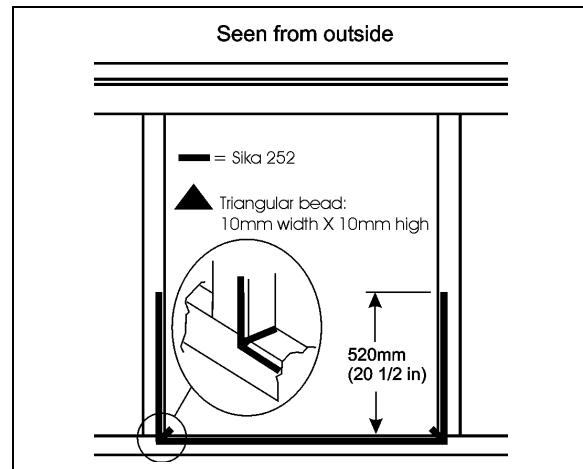

FIGURE 71: AWNING WINDOW – SIKA 252 APPLICATION
7. Apply Sika 252 as per FIGURE 71 (triangular bead: 10mm width X 10mm high) [10mm≈3/8"];